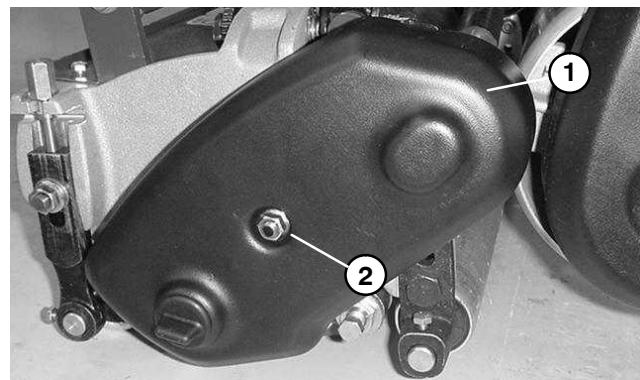

Figure 8
A. Remove flange nut and belt cover (Fig. 8) to expose drive belt.